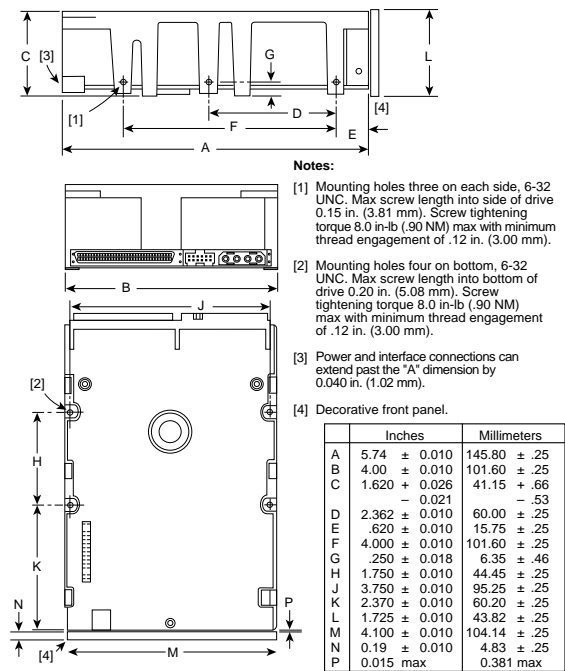

Figure 4. Hawk 2 family ST12400W/WD model drive mounting dimensions (68 pin SCSI I/O connector)
- See notes on Figures 4 and 5 pertaining to proper drive installation.